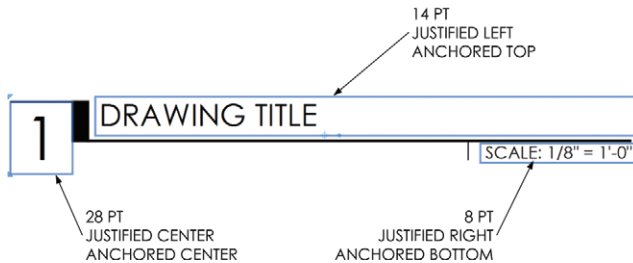

Figure 13.26 Add and arrange text on the drawing's title.
7. Add text to the drawing's title as shown in Figure 13.26.